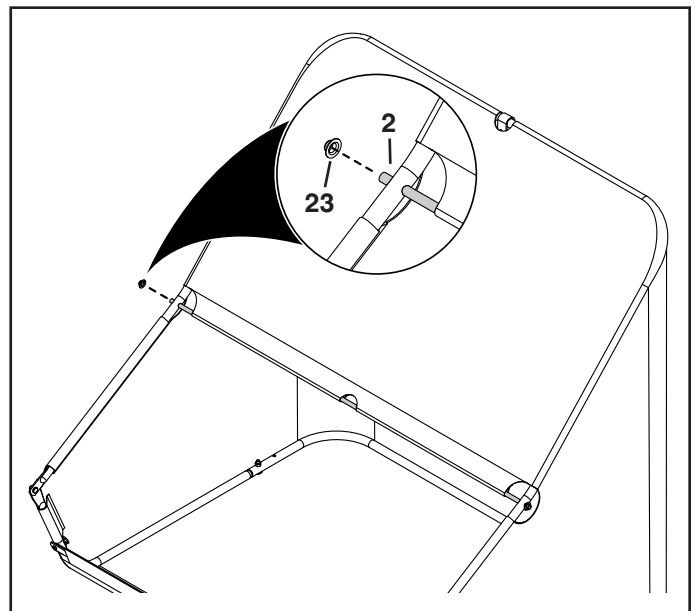

FIGURE 16
**STEP 16: (SEE FIGURE 16)**
- Slide the pivot rod (2) through the flap in the bag's windscreen first and then through the hole in each upper hopper tube.
- Hammer a palnut (23) onto each end of the pivot rod.